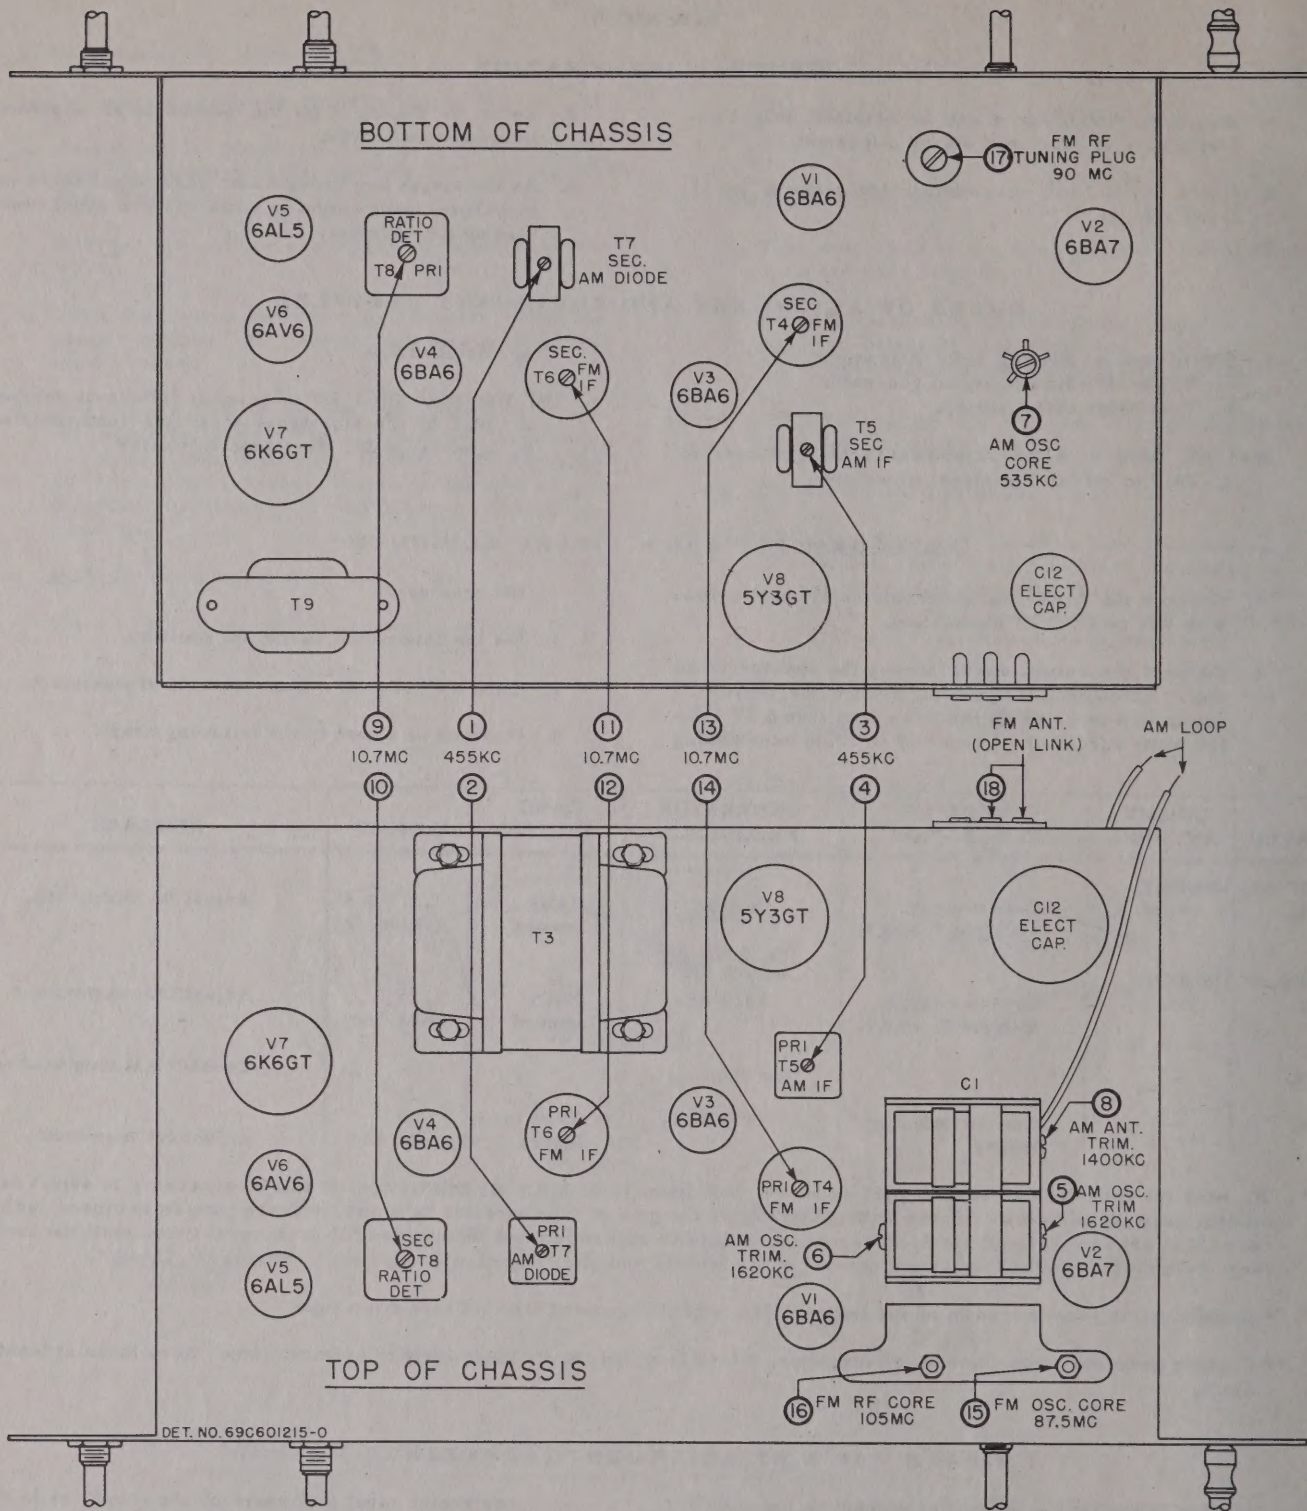

FIGURE 4. TUBE AND TRIMMER LOCATIONS
3. Refer to Figure 4 for the location of all alignment trimmers and cores.